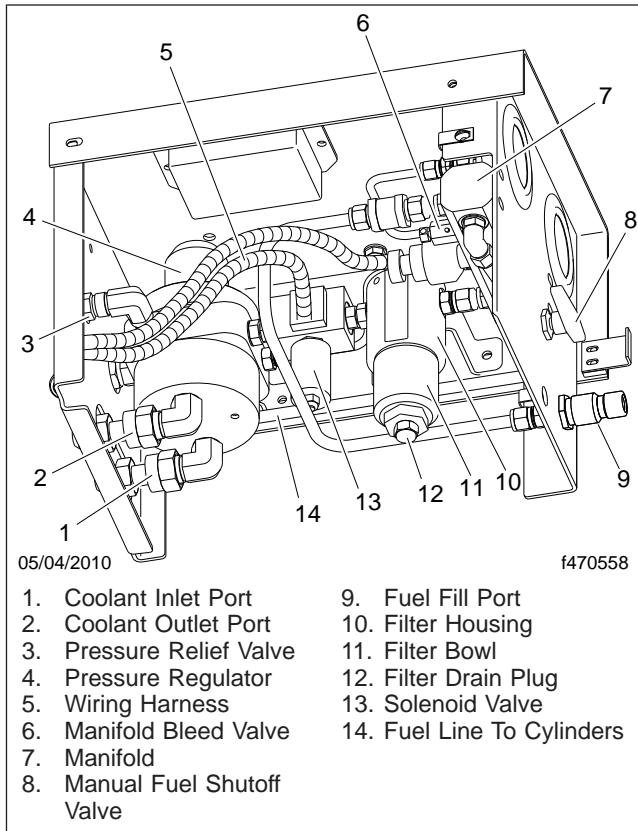

Fig. 21.17, CNG Fuel Panel Components
- 2.4 Slowly open the bleed valve on the manifold to relieve remaining fuel pressure within the system. See Fig. 21.17.